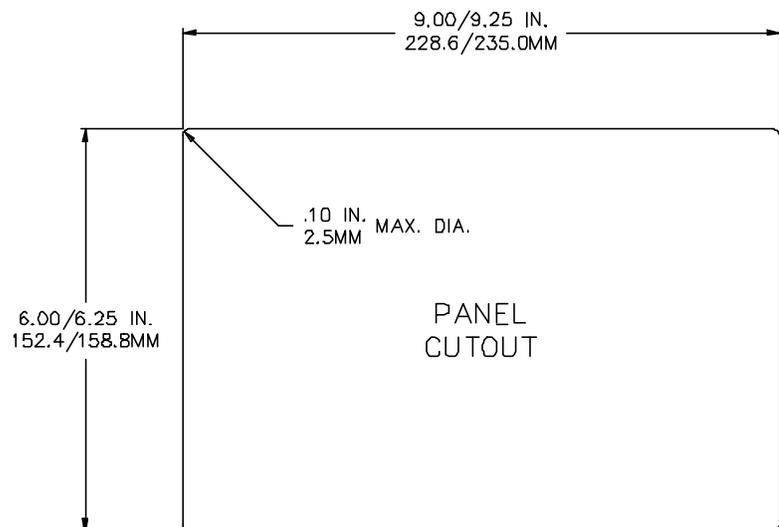
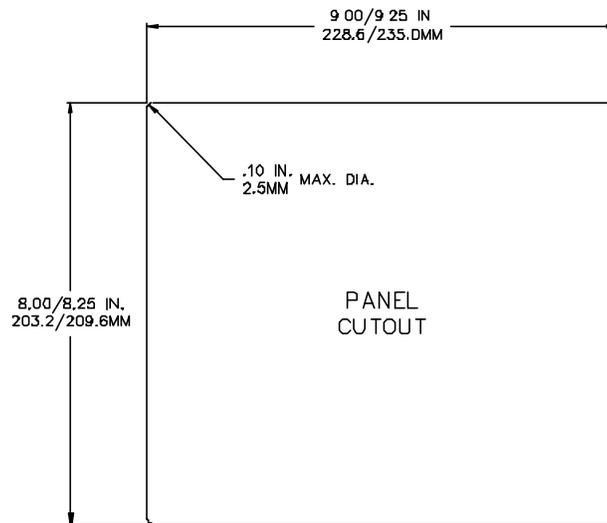

Figure 2-3: 460 Panel Mount Cut-Out Dimensions
Figure 2-4: 465 Panel Mount Cut-Out Dimensions
The procedure for installing a 460 and 465 panel mount indicator is identical with the exception of the panel cut-out size (see Figure 2-3 and Figure 2-4).
Figure 2-3 shows the cut-out dimensions for the 460 panel mount indicator.
Figure 2-4 shows the cut-out dimensions for the 465 panel mount indicator.
1. Make a cut-out in the panel using the dimensions specified in Figure 2-3 for a 460 indicator or Figure 2-4 for a 465 indicator.